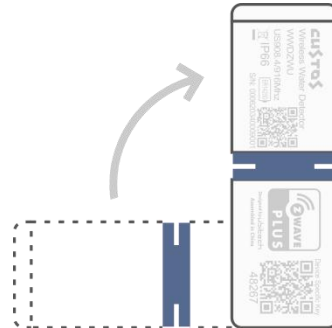

Figure 12B
- v. While GREEN & RED LED are flashing alternative for Gesture Recognition then turn Custos WWD from Horizontal to Vertical position "90°" and stick close to table surface as Figure 12B;